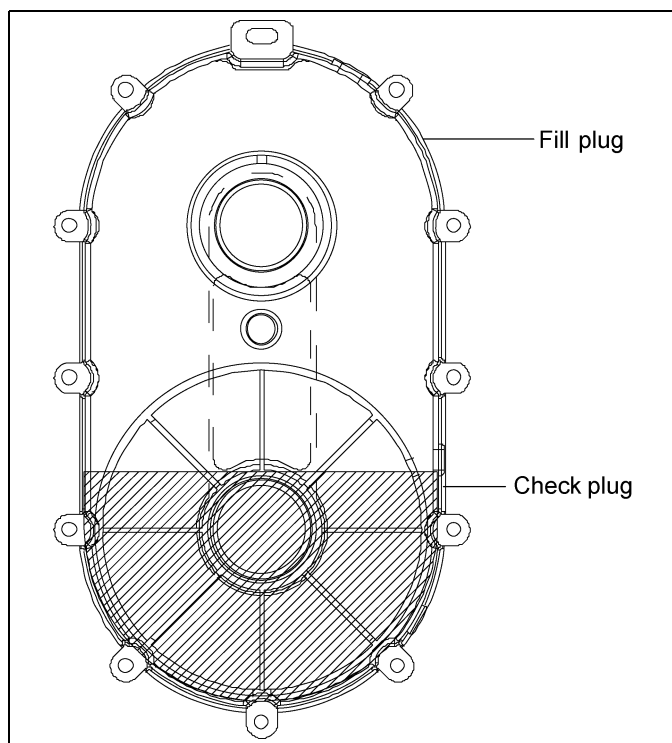

Figure 4A Enclosed Drive
1. First, fill the chain reducer drive with oil by removing the vented fill plug and pouring 48 oz. of oil into drive. Oil level can be checked by removing the check plug. Oil should not be over the check plug. (See Figure 4A.)